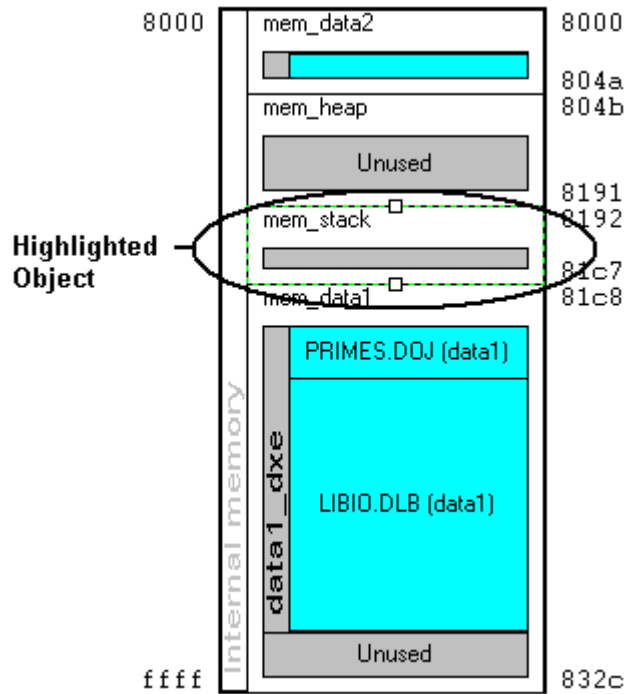

Figure 3-20. A Highlighted Memory Segment in the Memory Map
- i** When an object is selected in the memory map, it highlights as shown in Figure 3-20 on page 3-27. If you move the mouse pointer over an object in the graphical memory map, a yellow tooltip appears displaying the information about the object (such as name, address, and size).